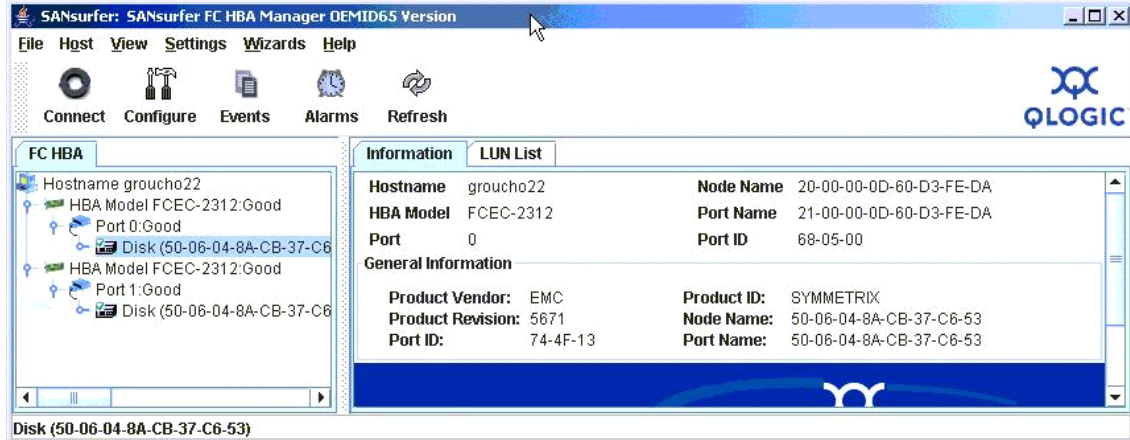

Figure 53 SANsurfer, SANsurfer FC HBA manager
On a Windows 2000 / Windows Server 2003 system, do one of the following to start the SANsurfer application, which includes the SANsurfer FC HBA Manager GUI. When complete, the SANsurfer application GUI displays. (Refer to the **SANsurfer FC HBA Manager** main window, as shown in Figure 53 on page 74).
- Click **Cancel** to abort the connection process and return to the **SANsurfer FC HBA Manager** main window, as shown in Figure 53 on page 74.